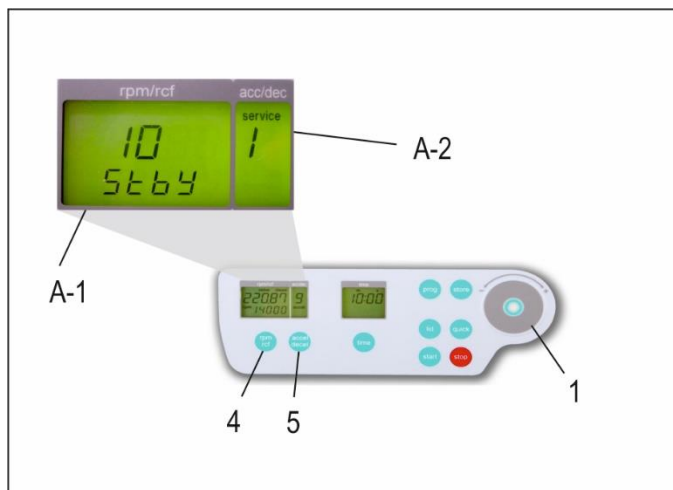

Figure 11
Proceed as illustrated, under point 1.9.1, to enter this program mode, press the key, "accel/decel" (5). In the display, "accel/decel" (A-2) flashes the word, "service". Select the letter "1" with the control field (1). As a result, appearing in the display, "rpm/rcf" (A-1), the word "Stby" (see Figure 11) . After pressing the key „rpm/rcf“, the standby mode can be turned off or pre-set to the needed value by turning the control field (1).